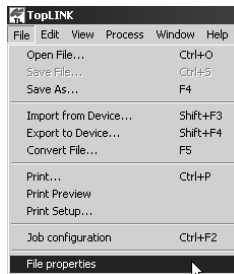

Figure 5-7. File->Job Configuration
1. To change the information view of the opened file, click **File->Job Configuration** (Figure 5-7).